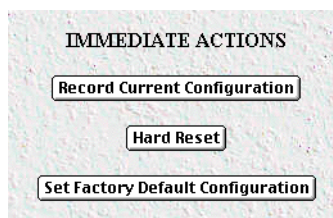

Figure 22. Immediate Actions buttons
- **Record Current Configuration**—clicking on this button (see figure 22) saves the current configuration from volatile DRAM memory to FLASH memory. Once the configuration is saved into FLASH memory, the configuration will not be lost even if the power is cycled on the 3096RC. Initially, changes made to the 3096RC configuration are stored in volatile DRAM, enabling the user to set the box up with a working
- **Hard Reset**—this button (see figure 22) causes the Model 3096RC to perform a cold restart. When you select **Hard Reset**, the T-DAC confirms that you want to execute this command. Then, the T-DAC will disconnect all current sessions, re-initialize the interfaces, and re-load configuration parameters from FLASH.
- **Set Factory Default Configuration**—this button (see figure 22) clears out the configuration in FLASH and loads the factory default parameters into FLASH memory. The factory default settings will not execute on the Model 3096RC until it is re-booted by doing a Hard Reset.
Note **Set Factory Default Configuration** (figure 22) will delete any routing information, the Model 3096RC's Ethernet IP address, and any other site-specific settings made for your particular installation. You will have to re-enter the Model 3096RC's Ethernet IP address and net-mask using the rear panel control port before using the HTTP/HTML Management pages.